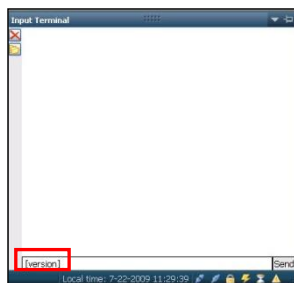

Figure 13: Version Command
24. Type [VERSION] in the field at the bottom of the *Input Terminal* window (see Figure 13).